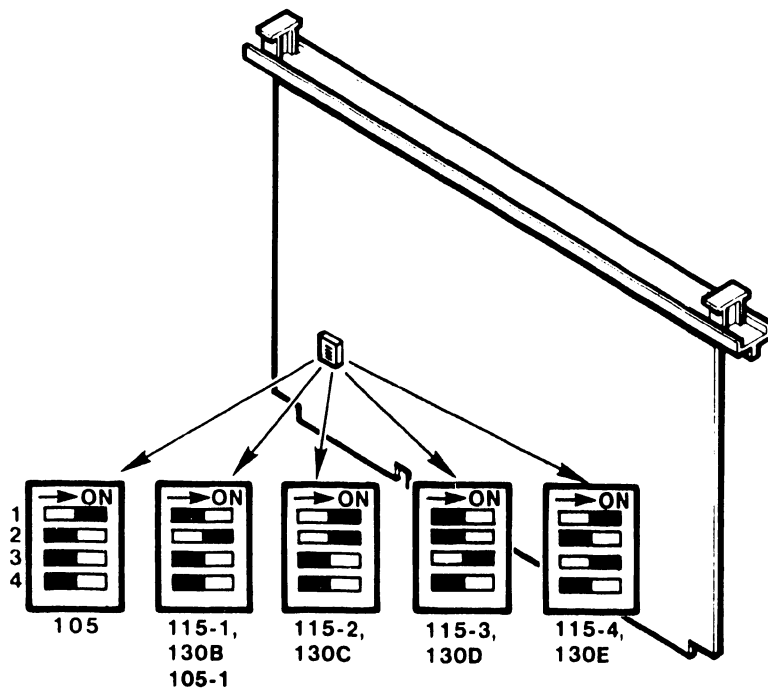

Figure 4-30. Switch Configurations for Winchester "B" Controller Board
- E. On the 7653 board, configure the DIP switch as shown in Figure 4-30.